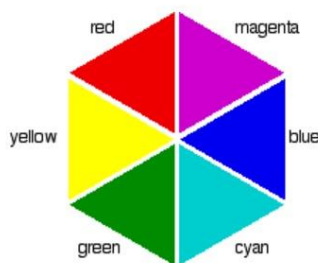

Figure 1
- 2) The dye looks blue because it absorbs light in the 560 nm – 650 nm region of visible light. Refer to Figure 1. You need to determine the best wavelength in this region at which the dye absorbs light. Turn on the spectrophotometer set the software to the wavelength scan option. Scan from 400 nm to 700 nm.